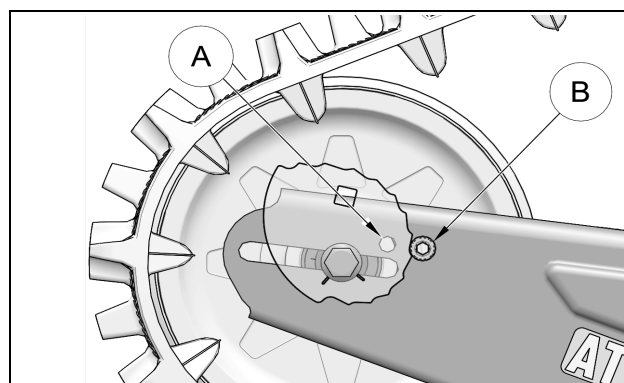

Figure 27
- (A) - System with 15 or 16-tooth sprockets.
- (B) - System with 17 or 18-tooth sprockets. See Figure 27.